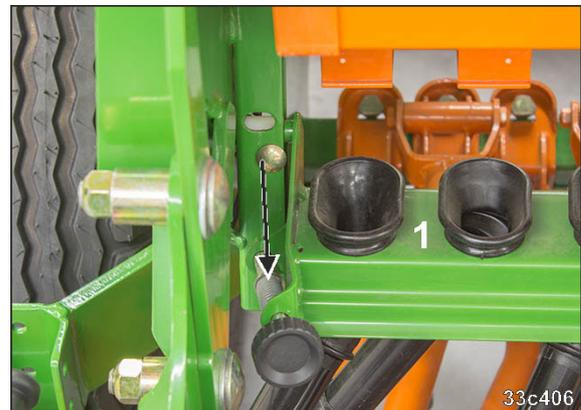

Fig. 155
2. Lower the funnel rail (Fig. 155/1).